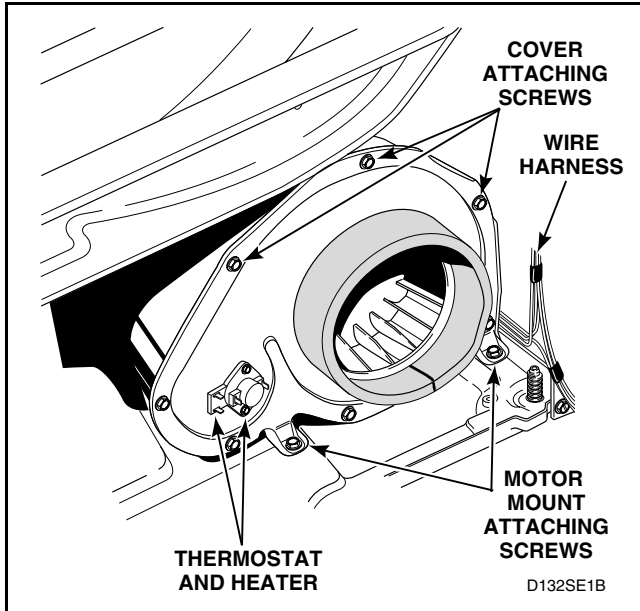
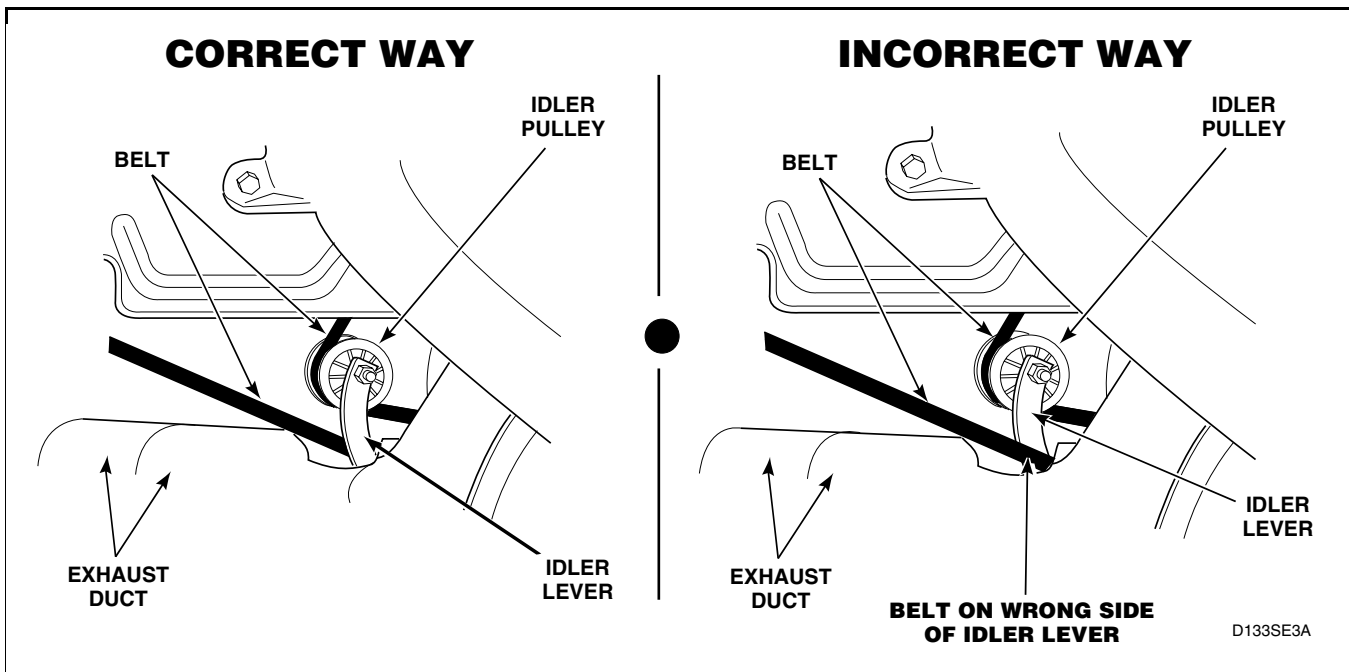
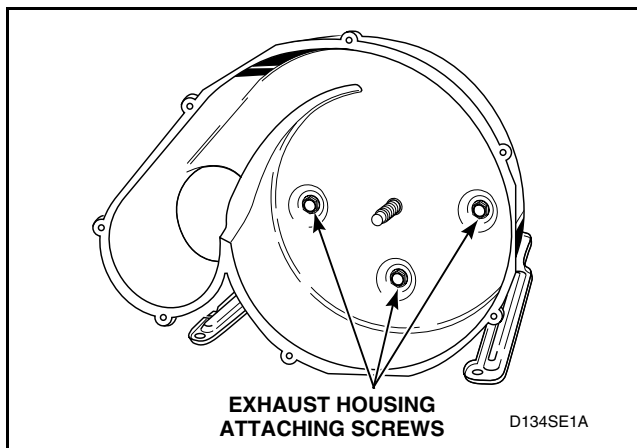

Figure 44
Figure 45
Figure 47
- Disconnect wires from thermostat and heater. Refer to *Figure 44*.
- f. Remove cylinder belt from idler and motor pulleys. Refer to *Figure 45*.
**NOTE:** When installing belt, be sure belt is properly installed on motor and idler pulleys, and is on the correct side of the idler lever. Refer to *Figure 45*. Belt must be positioned around cylinder approximately three inches ahead of the rear rib on cylinder. Refer to *Figure 53*, with the ribbed surface of the belt against the cylinder. After installing belt, manually rotate cylinder counterclockwise to check that belt is properly aligned.
**IMPORTANT:** When reinstalling motor and exhaust assembly, be sure wire harness on right side is clipped to motor mounting bracket and is routed along dryer base (between motor mounting bracket and right side of cabinet). Refer to *Figure 44*. Tab on rear of motor mounting bracket must be slid into slot in dryer base. Be sure the belt has been installed on the correct side of the idler lever. Refer to *Figure 45*.
- (1) Remove screws holding cover to housing. Refer to *Figure 44*.
- (2) Hold motor pulley securely and unthread impeller from motor shaft (right hand thread). Use a 7/8 inch, 6 point socket to aid in the removal of the impeller.
- (3) Remove three screws holding the exhaust housing to the motor mounting bracket. Refer to *Figure 47*.